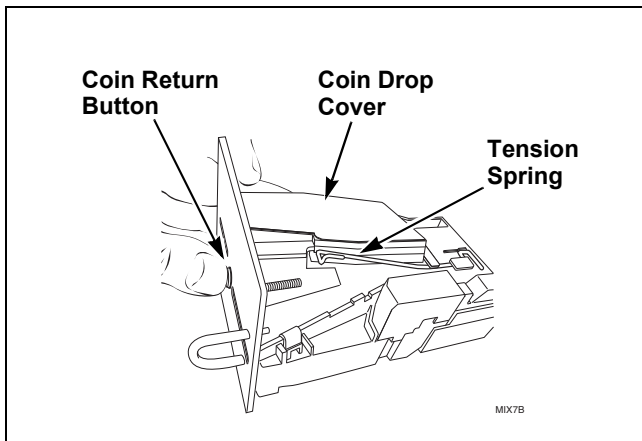
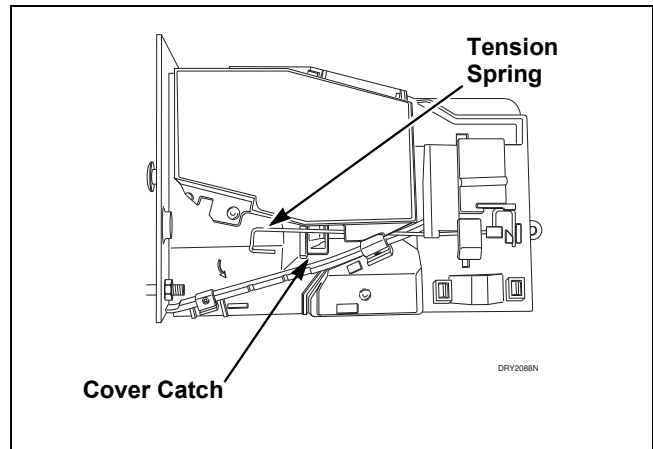
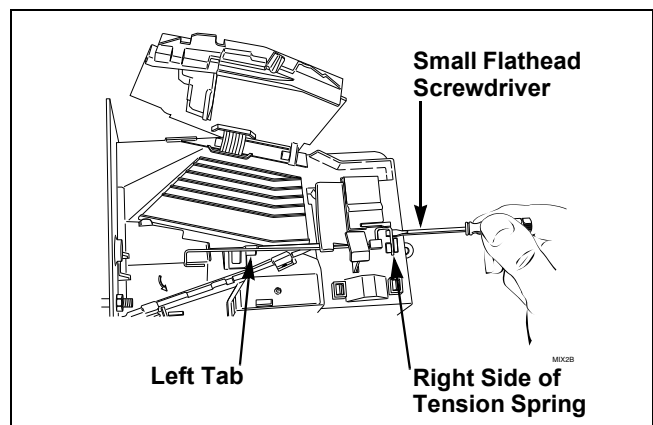

Figure 2
Figure 4
Figure 5
- (1) Clean coin drop. Refer to *Paragraph 55*.
- (2) On electronic coin drops with an old-style tension spring (shown in *Figure 2* and *Figure 4*), test and replace tension spring using the following instructions.
- (1) Push coin return button to open and close coin drop cover to clear possible coin jams. Refer to *Figure 2*.
- (1) Move tension spring downward until cover catch is free. Refer to *Figure 4*.
- (2) Open cover for coin drop.
- (3) Place a small flathead screwdriver under right side of tension spring and lift up. Refer to *Figure 5*.
- (4) Use screwdriver to move spring approximately 3 mm to left.
- (5) Lift spring over left tab. Refer to *Figure 5*.
- (13) Lift spring gently to place in position under left tab.
- (14) Push spring to right until it snaps into position. Refer to *Figure 5*.
- (15) Close coin drop cover.
- (16) Move tension spring over cover catch. Refer to *Figure 4*.